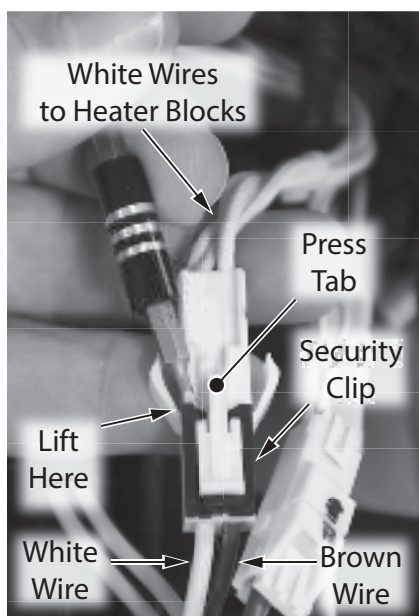

Figure 33 - Disconnect long heater block wiring from control board
- 12** Locate the wire connection between the long heater block assembly and the reverse side of control board. To disconnect, gently remove the security clip with a mini pick or fingernail. Push tab as shown in Figure 33. Separate the harnesses. Place security clip aside in a safe place for reinstallation.